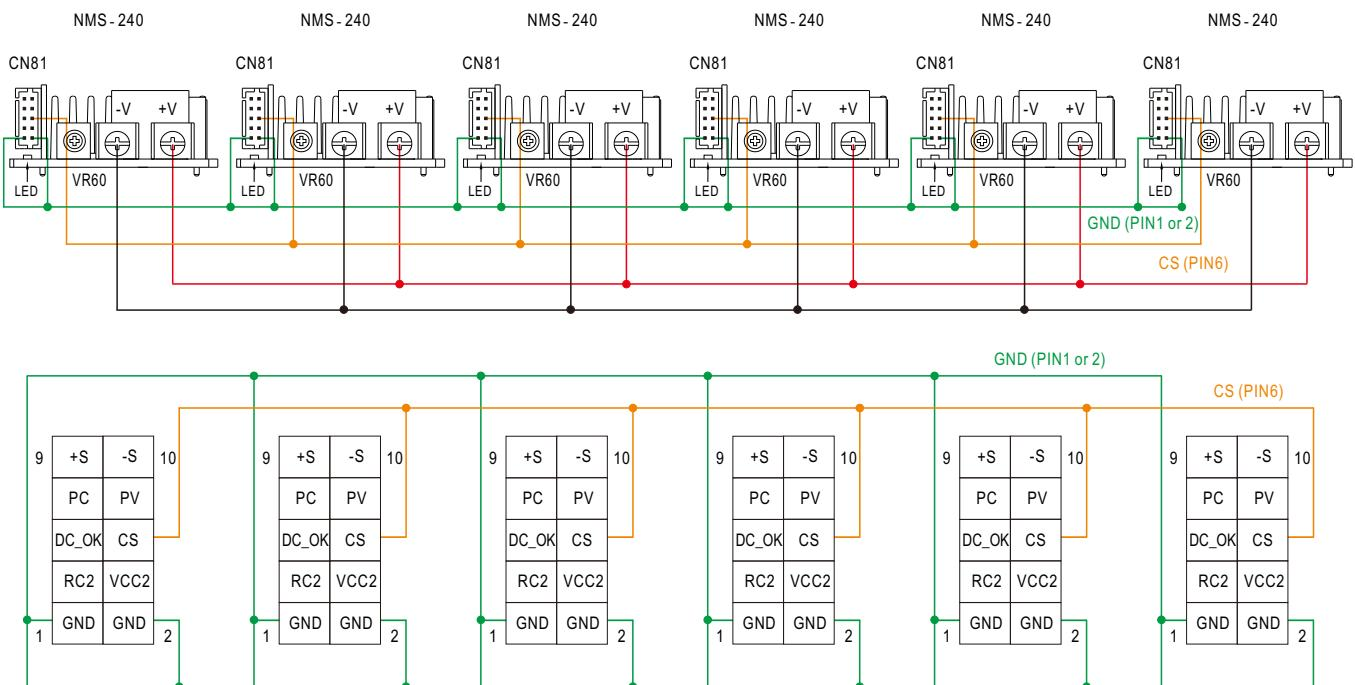

Figure 5-11
- ◎ In parallel operation, CS and GND pins of CN81 of all modules need to be connected in parallel as shown in Figure 5-11. Refer to A1.2 for more details on the connection accessory.
- ◎ When power modules are in parallel, output current programmable (PC) function shall NOT be in use.